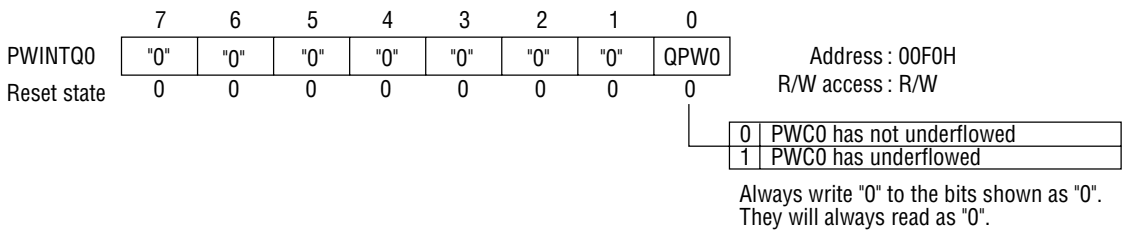
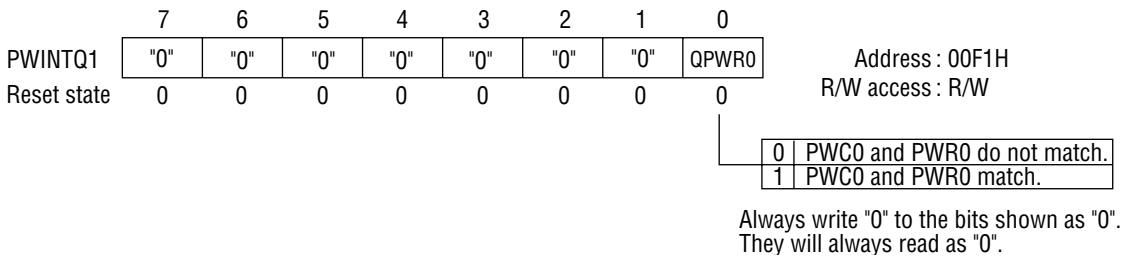

Figure 11-4 PWINTQ0 Configuration
Figure 11-5 PWINTQ1 Configuration
If a PWC0 underflow and PWC0 and PWR0 match occur simultaneously (when PWR=0000H), then the PWC0 underflow interrupt request will take precedence. Only the PWINTQ0 bit will be set (1); the PWINTQ1 bit will not be set (1). Figure 11-4 shows the configuration of PWINTQ0, and Figure 11-5 shows the configuration of PWINTQ1.